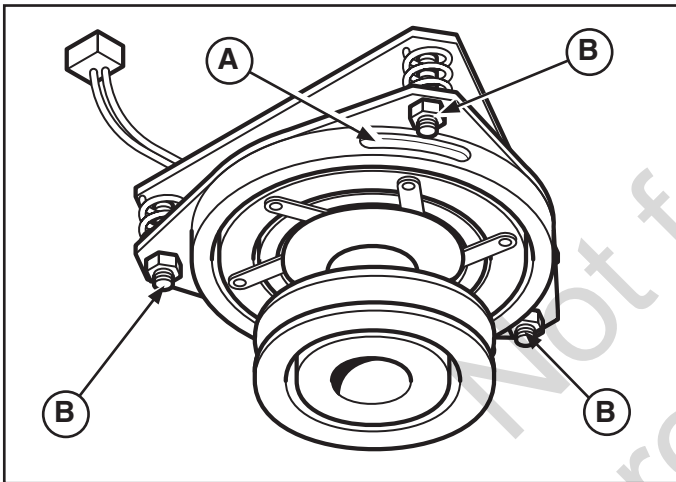

Figure 26
2. Note the position of the 3 adjustment windows (A, Figure 26) in the side of the brake plate and the nylon adjustment nuts (B).
4. Alternately tighten the adjustment nuts (B, Figure 26) until the rotor face and armature face just contacts the gauge.